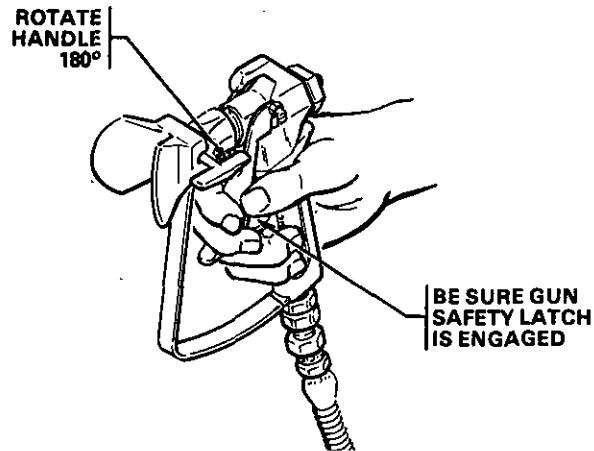

Fig 6
- b. If the spray tip does clog, release the gun trigger, engage the gun safety latch, and rotate the spray tip handle 180°. See Fig 6.